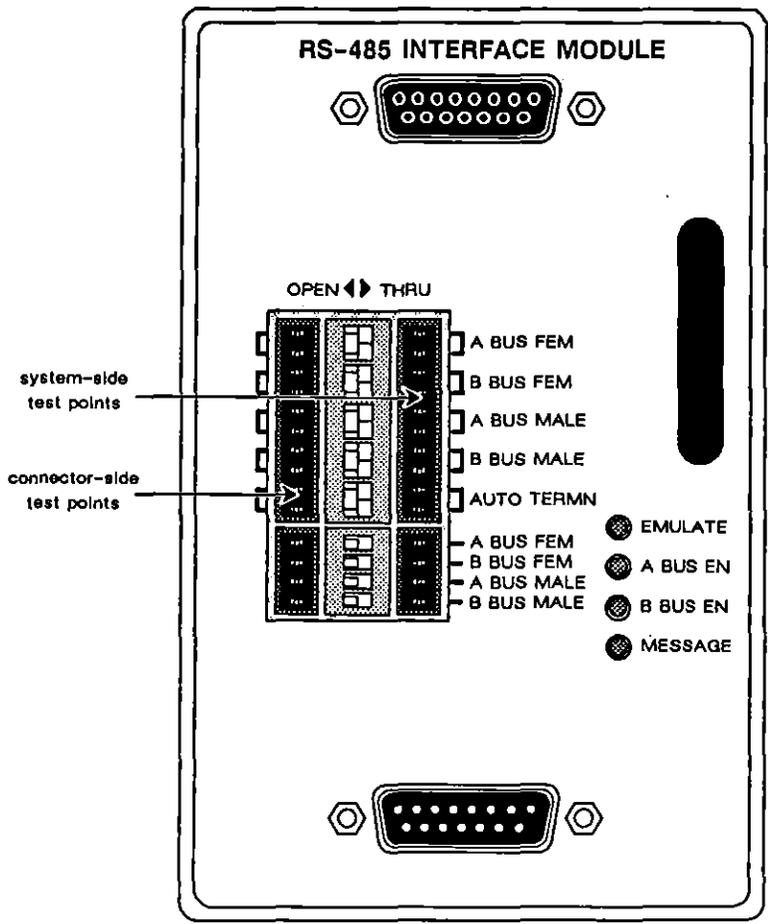

Figure 50-1 RS-485 Interface Module.
Figure 50-1 shows the TIM for the RS-485 interface. With the unit powered off, insert the TIM into the module slot at the rear of the unit and press until it latches. After booting, the start-up screen will show RC-8245 as the installed TIM.
The connectors on the RS-485 TIM provide access to either (or both) bus(es). Use the connector(s) to monitor or emulate on either bus *without breaking the circuit*. If you do break a data line for testing, connect one end of the line to the female (top) connector on the TIM (Figure 50-1). Connect the other end of the line to the male (bottom) connector on the TIM. Even when the INTERVIEW is powered off, this provides a through connection for the data line. (For connector pin-designations, consult Table I-8.)
The INTERVIEW is tied to the digital communications line by the two cable connections on the interface module. Refer to Section (A) above. In between the cables are the INTERVIEW's drivers and receivers and, on the face of the module, a breakout area. The TIM in Figure 50-1 shows the normal settings for all DIP switches.
Figure 50-2 also shows the logical location of the RS-485 TIM's test points. (Refer to Figure 50-1 for the physical location of the test points on the TIM.) Access these test points or reroute the circuits using one of the twisted-pair patch cords provided with the RS-485 module.